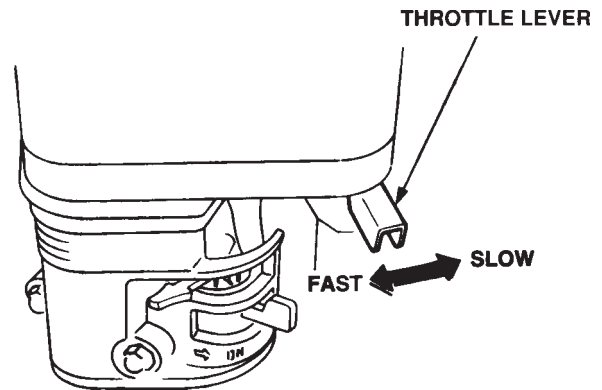

Figure 23. Throttle Lever
- Place the **throttle lever** (Figure 23) halfway between **fast** and **slow** for starting. All sawing is done at full throttle. The engine governor speed is factory set to ensure optimum blade operating speeds.
3. Place the **engine throttle lever** (Figure 23) in the **slow** position, and let the engine idle for 3-5 minutes.